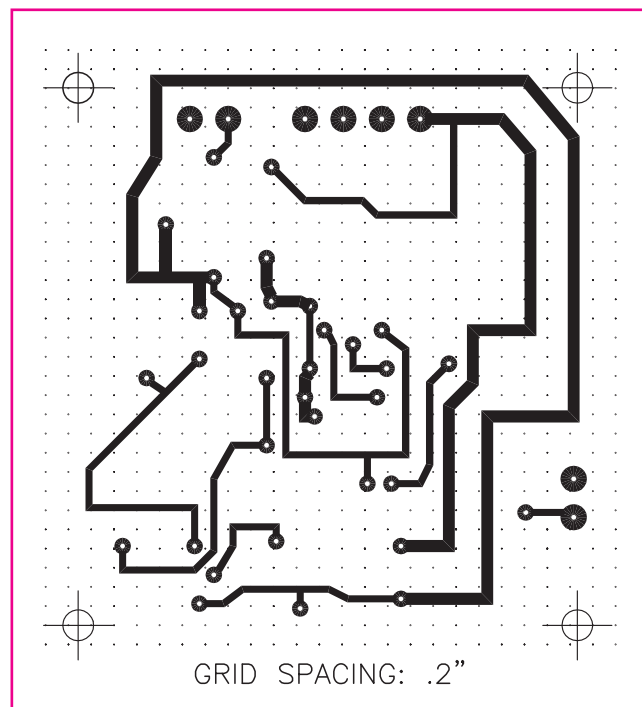

Fig. 15-14
8. The artwork for one side of a small printed circuit board is shown in Fig. 15-14. Reproduce the drawing using donuts and wide polylines. Use the grid to estimate the widths of the polylines and the sizes of the donuts.